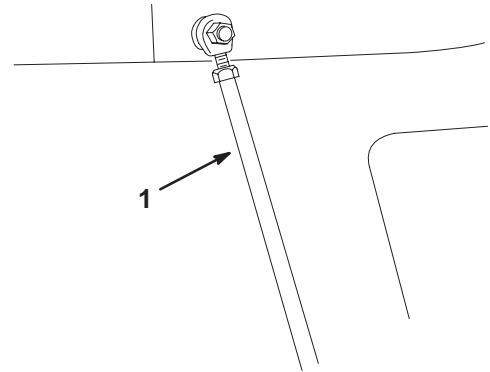

Figure 18
- Secure hopper tie rods to frame with hair pin cotters (Fig. 18).